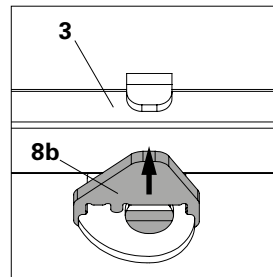

Fig. A2.12b
2. Push the Pressure Plate UHA (**8b**) in the direction of the Horizontal Ledger UH (**3**). (Fig. A2.12b – A2.12d)